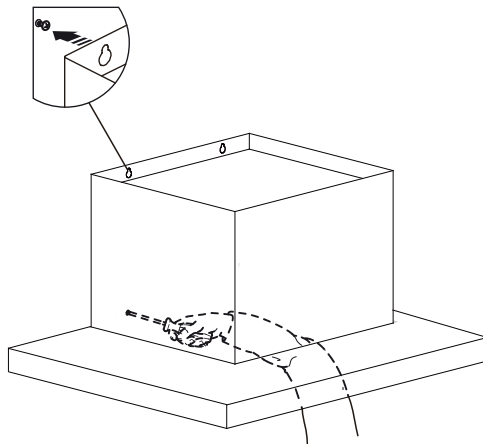

Fig.3
- Remove the aluminium filters from the rangehood body and hang it on the mounting screws then secure at the anti-tilt locations as indicated in Fig. 3.